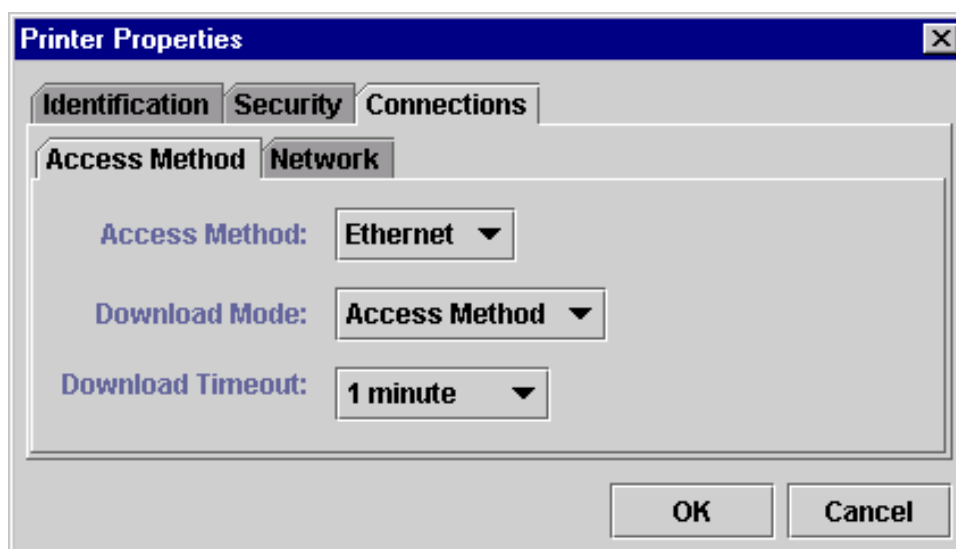

Figure 4. . Printer Properties (Connections)
8. Click on the tab at the top of the window that reads, “Connections.” The Printer Properties window changes to the Connections screen. See Figure 4.